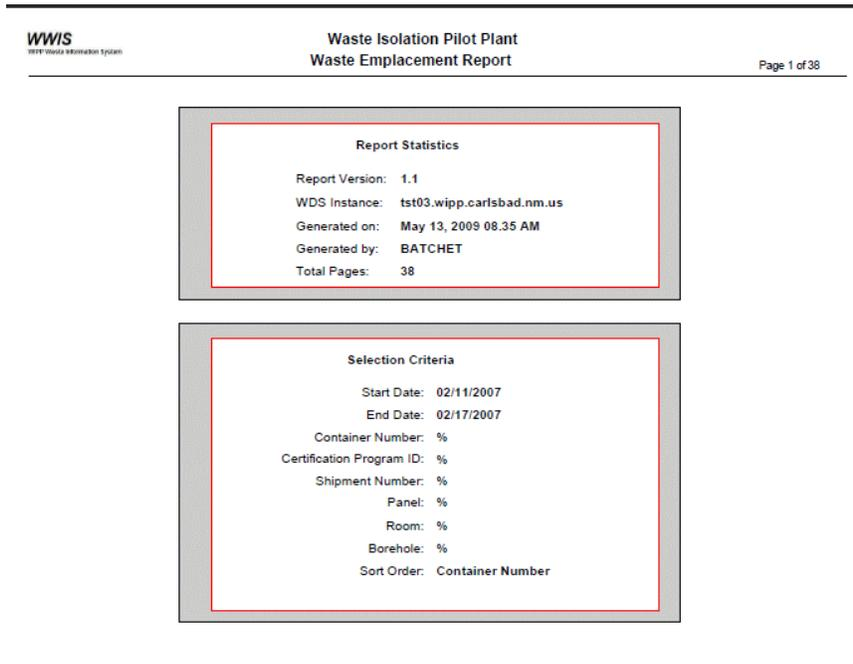

Figure 6-13 - Waste Emplacement
6.9.3 Select **Generate Report** as shown in Figure 6-13.